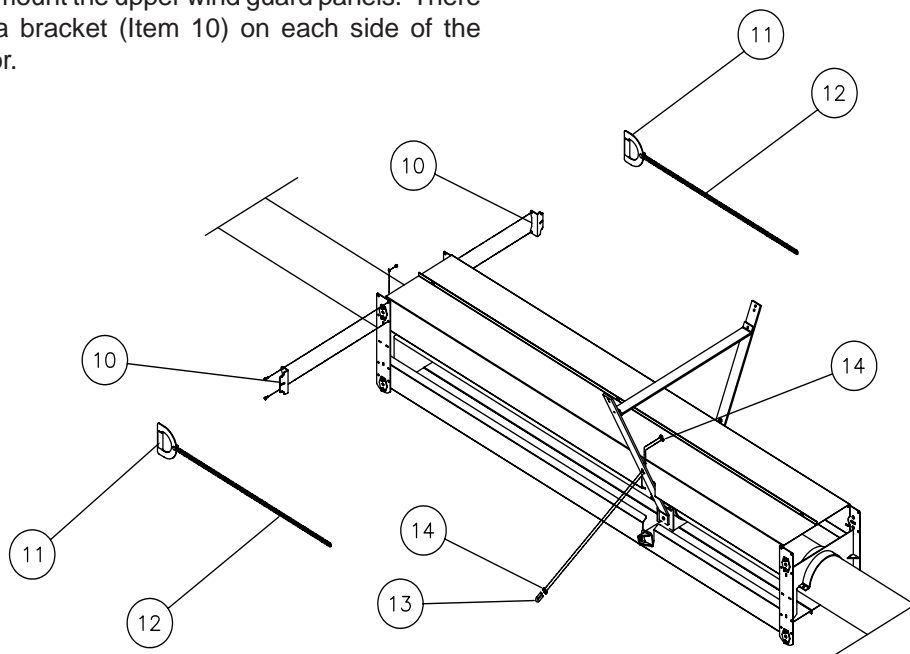

FIG. 4
11. Referring to Figs. 4 and 5, install the cable handle latch brackets (Items 10) to the top of the lowest conveyor return roll support. The brackets (Items 10) will mount with the existing 1/4" bolts used to mount the upper wind guard panels. There will be a bracket (Item 10) on each side of the conveyor.